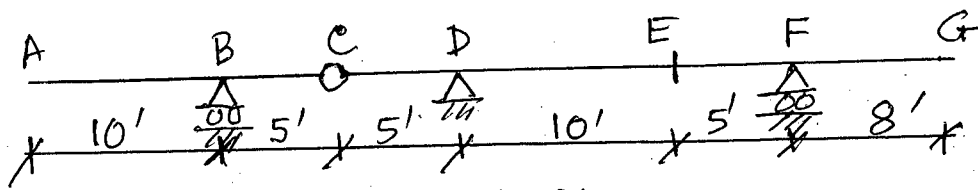

Fig. 7
8. Draw influence line diagram for (a) Reaction at D (b) Shear just left of D (c) Moment at E (d) Moment at D of the beam shown in Fig. 7. (28)
- (b) Show with neat sketches the location of bar cut-off and bent points for beams for nearly equal span and uniformly distributed load. (8)
- (c) Why is concrete cover over rebar important? What are the code recommended values of cover for beams and slabs? (7)
8. (a) Determine the total depth and tensile reinforcement for the simply supported beam shown in Fig. 7. All loads are factored. Assume  $b = 12$ ";  $\rho = 0.6 \rho_{max}$ ;  $f'_c = 4$  ksi and  $f_y = 60$  ksi. (17)
- (b) Design the stirrups for the beam shown in Fig. 7. Calculate the stirrups with 3 sets of spacing. Show the stirrups in a neat sketch. (18)